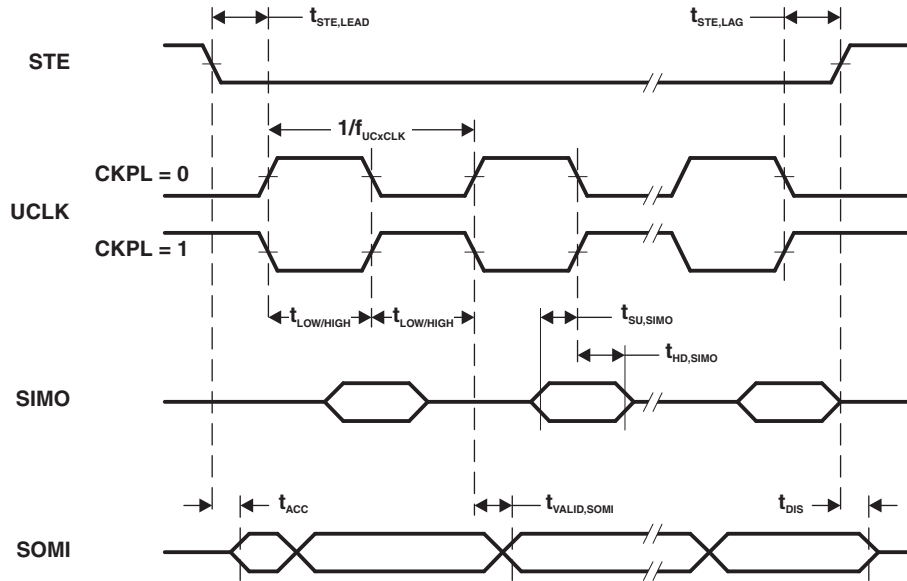
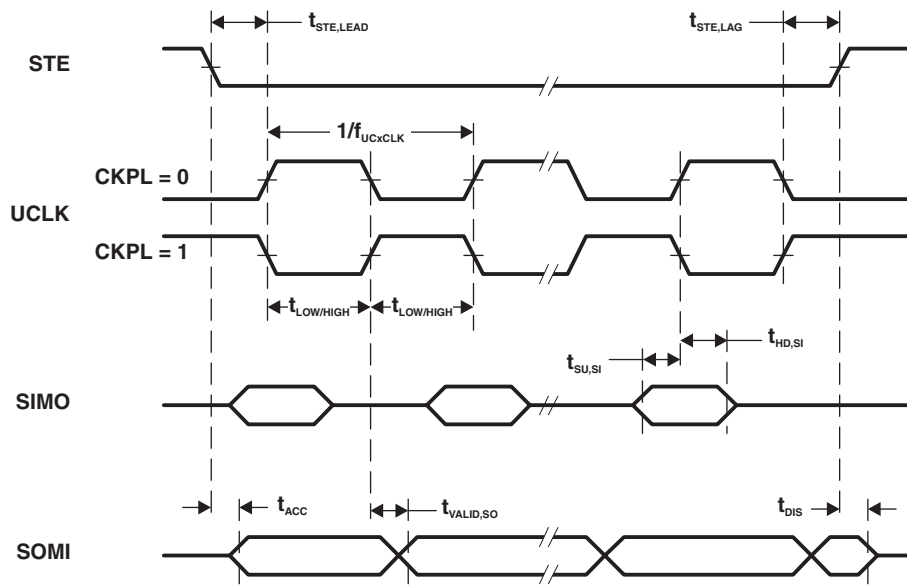

Figure 5-12. SPI Slave Mode, CKPH = 0
Figure 5-13. SPI Slave Mode, CKPH = 1
- (2) Specifies the time to drive the next valid data to the SOMI output after the output changing UCLK clock edge. Refer to the timing diagrams in Figure 5-12 and Figure 5-13.
- (3) Specifies how long data on the SOMI output is valid after the output changing UCLK clock edge. Refer to the timing diagrams in Figure 5-12 and Figure 5-13.